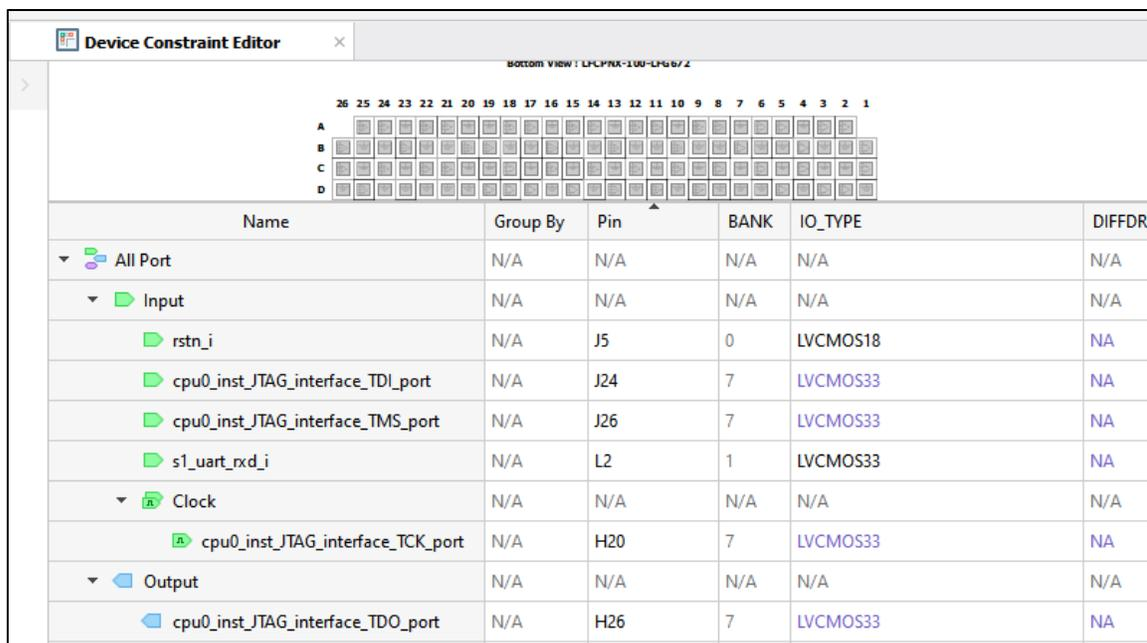

Figure B.2. Assigning Pins
- b. Open **Device Constraint Editor** from the **Tools** tab in Lattice Radiant software and assign the pins. For different devices, refer to the user guide of each board. The following assignment is for LFCPNX-100-9LFG72C (Figure B.2).